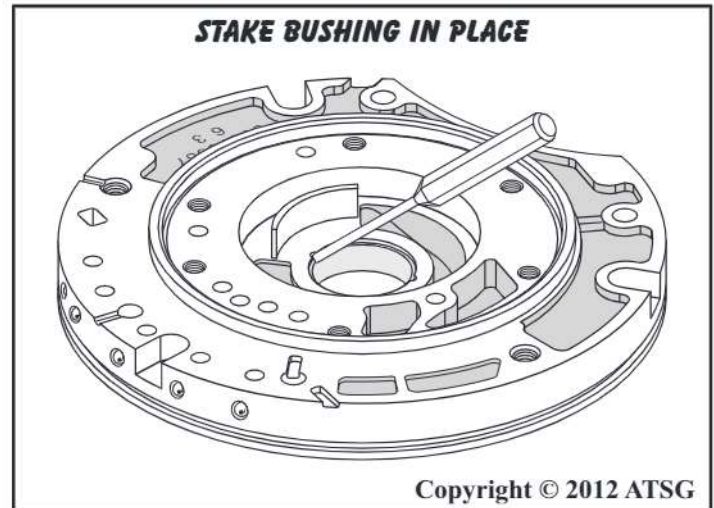
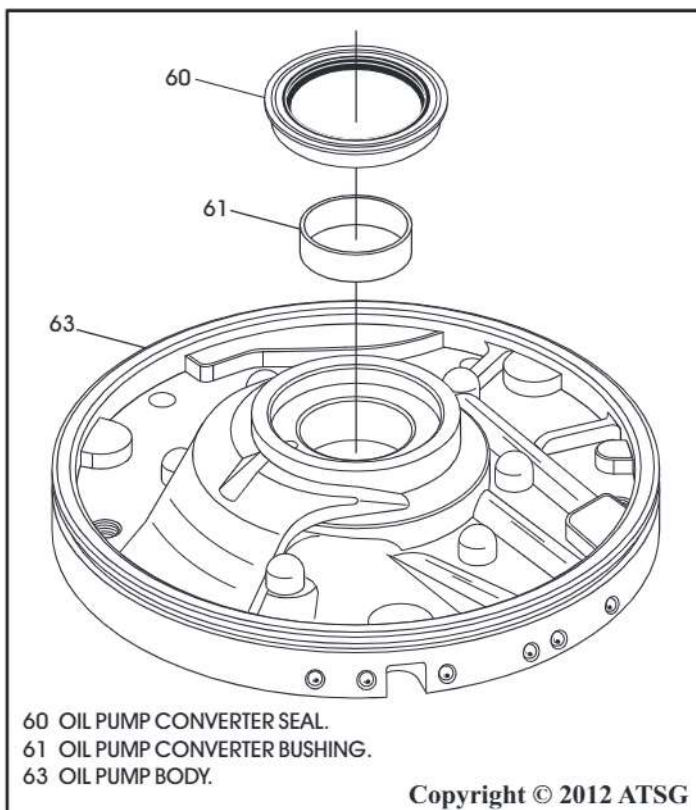

Figure 200
Figure 199
4. Install new converter bushing as necessary, as shown in Figure 199, and stake the new bushing as shown in Figure 200.
5. Install new converter seal using the proper drivers, as shown in Figure 199.